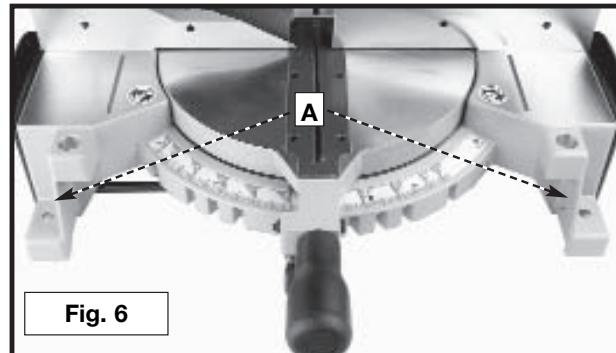

Fig. 6
Before operating your compound miter saw, mount it to a sturdy workbench or other supporting surface. Four holes are provided, two of which are shown at (A) Fig. 6.